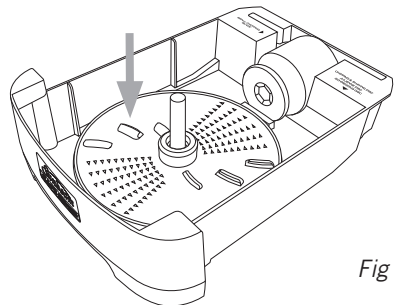

Fig 12
5. Place the remaining 'Reversible Disc' in on top of the first 'Reversible Disc' as indicated in figure 12.